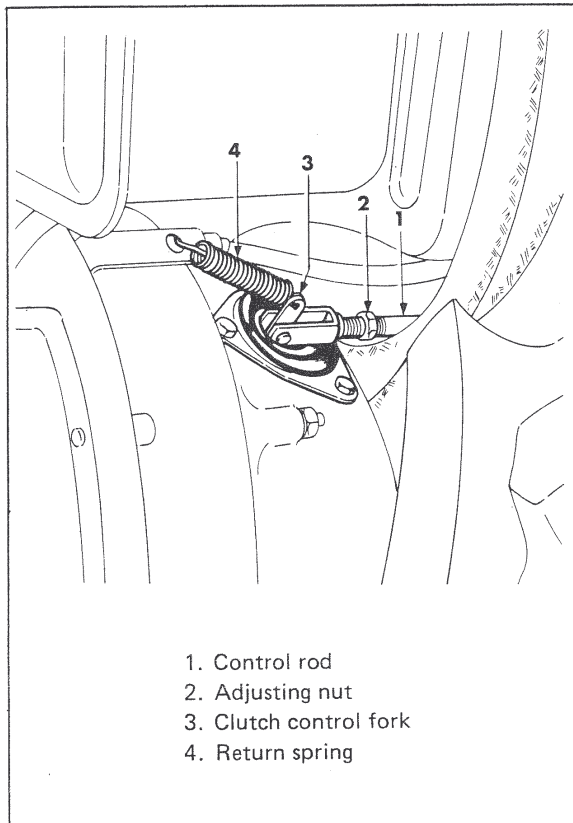

Figure 27. Clutch adjustment
2. If the idle stroke is insufficient (clutch slippage) or excessive (disengagement is not complete) adjust the relating control rod (see fig. 27) through adjusting nut (2) until an idle stroke of 15 mm is obtained.